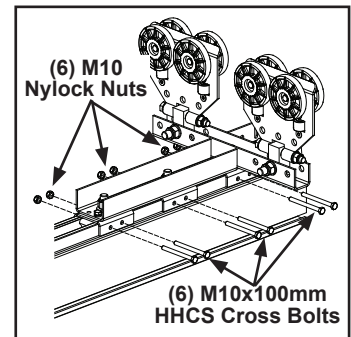

Figure 3-96
- Step 3. Install two (2) M10 x 100 mm HHCS with M10 nylock nuts. **Tighten until bolts are snug + ¼ turn.** Do not over tighten. Over tightening could cause bracket to bend. See Figure 3-96.